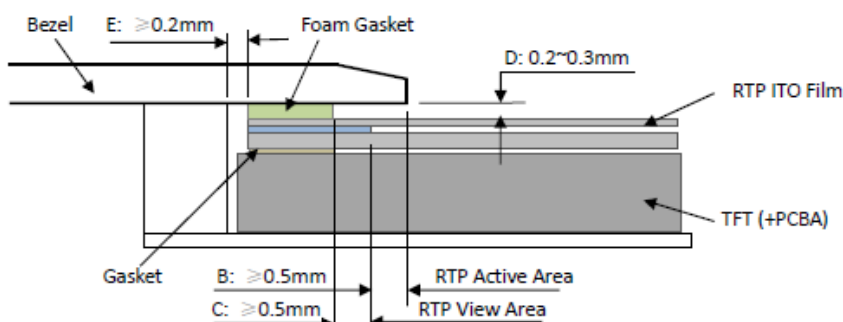

Figure 4
- It should bezel touching the RTP Active Area (A.A.) to prevent abnormal touch. It should left gap  $D=0.2\sim 0.3\text{mm}$  in between. (Figure 4)
- Outer bezel design should take care about the area outside the A.A. Those areas contain circuit wires which is having different thickness. Touching those areas could de-form the ITO film. As a result bezel the ITO film be damaged and shorten its lifetime. It is suggested to protect those areas with gasket (between the bezel and RTP). The suggested figures are  $B\geq 0.50\text{mm}$ ;  $C\geq 0.50\text{mm}$ . (Figure 4)
- The bezel side wall should keep space  $E=0.2\sim 0.3\text{mm}$  from the RTP. (Figure 4)
- 为避免面框直接压在动作区(A. A.)上造成误动作，面框与电阻触摸屏(RTP)之间应留有一定的空隙 $D=0.2\sim 0.3\text{mm}$ 之间。(附图4)
- 设计面框时，要注意用面框保护触摸屏四周的非保证操作区域，因为布线区域在此处形成一台阶，在此区域附近操作时ITO Film变形较大，容易导致ITO损坏而降低寿命。为保护RTP和避免误操作，在RTP与面框之间垫缓冲物(Gasket)，我们建议设计面框应覆盖动作区的边缘，面框边缘到V. A. 区的距离 $B\geq 0.50\text{mm}$ ；垫圈内边缘到V. A. 区的距离 $C\geq 0.50\text{mm}$ 。(附图4)
- 在设计面框与RTP组装时，应考虑到面框内侧与RTP外侧的间距 $E\geq 0.2\text{mm}$ 。(附图4)